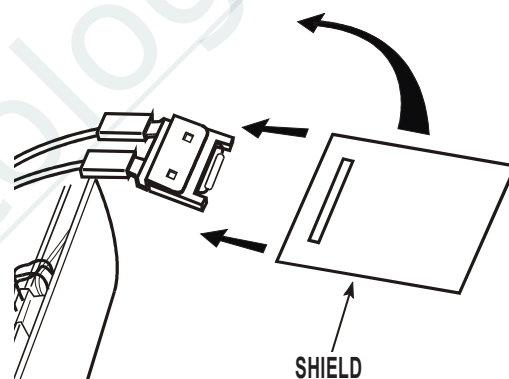

FIGURE 3
7. Clip the new thermal cutoff (TCO) that's part of the kit onto the dishwasher control housing. See Figure 3 to confirm proper orientation of the mylar shield on the TCO.